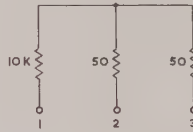

Fig.5 THREE TERMINAL NETWORK.
- (a) Make up a 3-terminal network as shown in fig. 5. The construction of the network should be as compact as possible. Lead diameters of not more than 0.025 in. and ± 0.5 per cent tolerance resistors should be used.